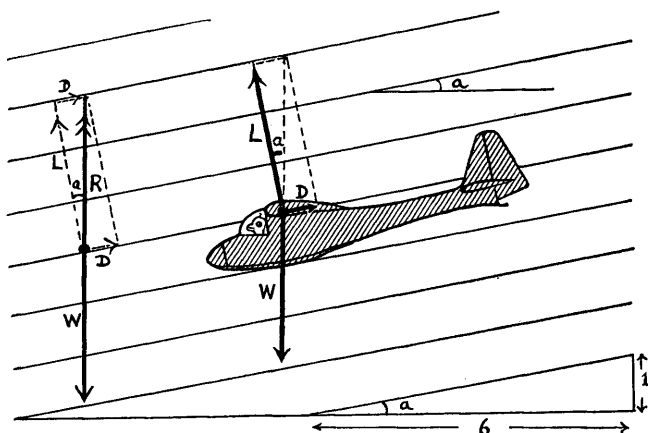

FIG. 4. The forces on a glider
The same applies to a glider. It has to go 'downhill' through the air all the time. The diagram (Fig. 4) shows how the weight is used to pull it forwards down this imaginary slope, and how at a steady speed this balances the resultant (R) of the lift and drag. By moving the tail controls and altering the angle of the wing to the air-flow, different values of L (lift) and D (drag) will be obtained, and consequently different gliding angles.
In Fig. 4 the angles are much exaggerated for clearness, and the gliding angle is shown as only 1 in 6. In a good modern glider, flying at about 40 knots, the lift may be about 650 lb. and the drag 25 lb. In this case $\frac{L}{D}$ is therefore $\frac{650}{25}$ which equals 26, so the gliding angle at this speed is 1 in 26.